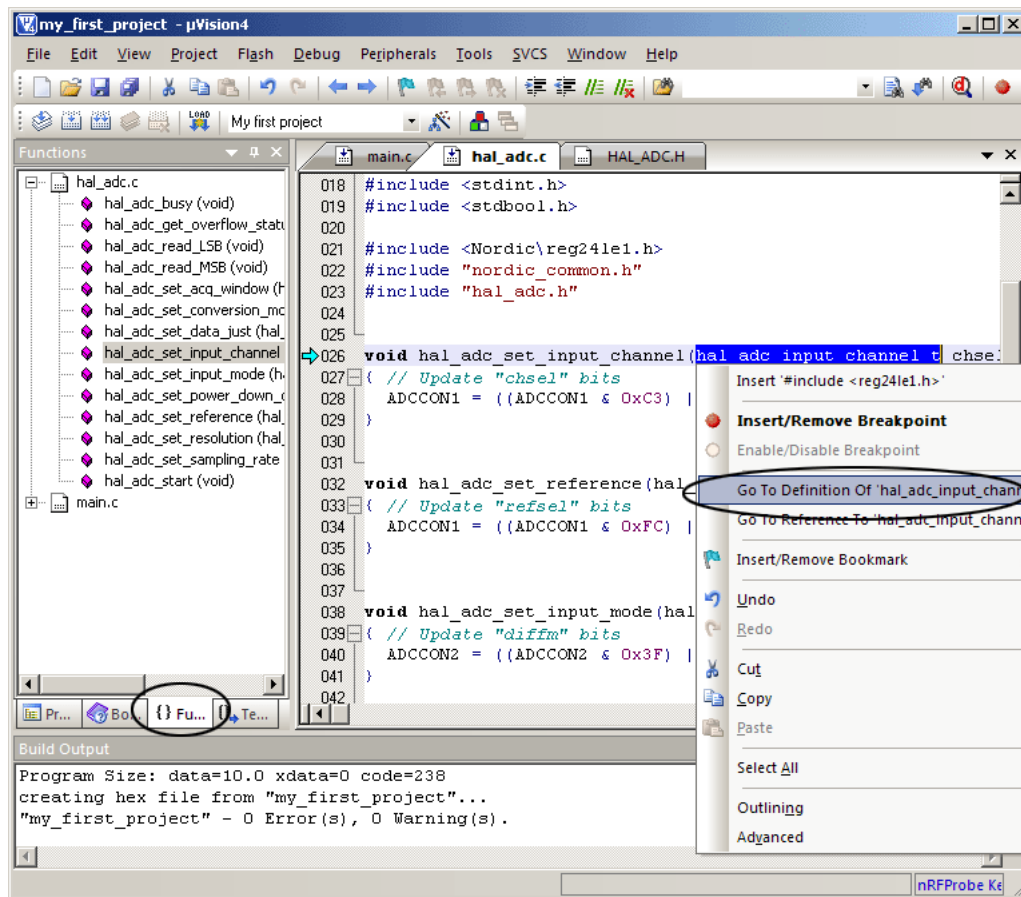
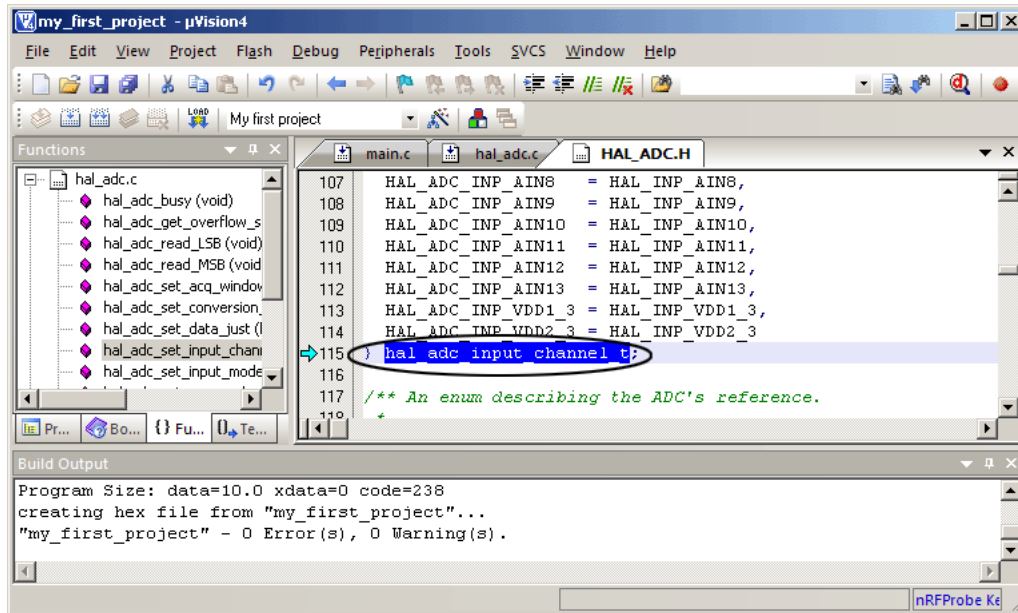

Figure 28. Available functionality of the HAL ADC with source code
Figure 29. Available parameters used as input for specific function
5. Optionally you can browse the functions in the `hal_adc.c` by selecting the “Function tab”. See the encircled area to the left in Figure 28. Click on one of the functions to see the argument for the functions and the source code for it. All parameters for the functions are enumerators that can be used in the function call.
6. You can also list up all available enumerators by using the **Go To Definition of** menu option (see Figure 28.) for each function call (see Figure 29. on page 25).